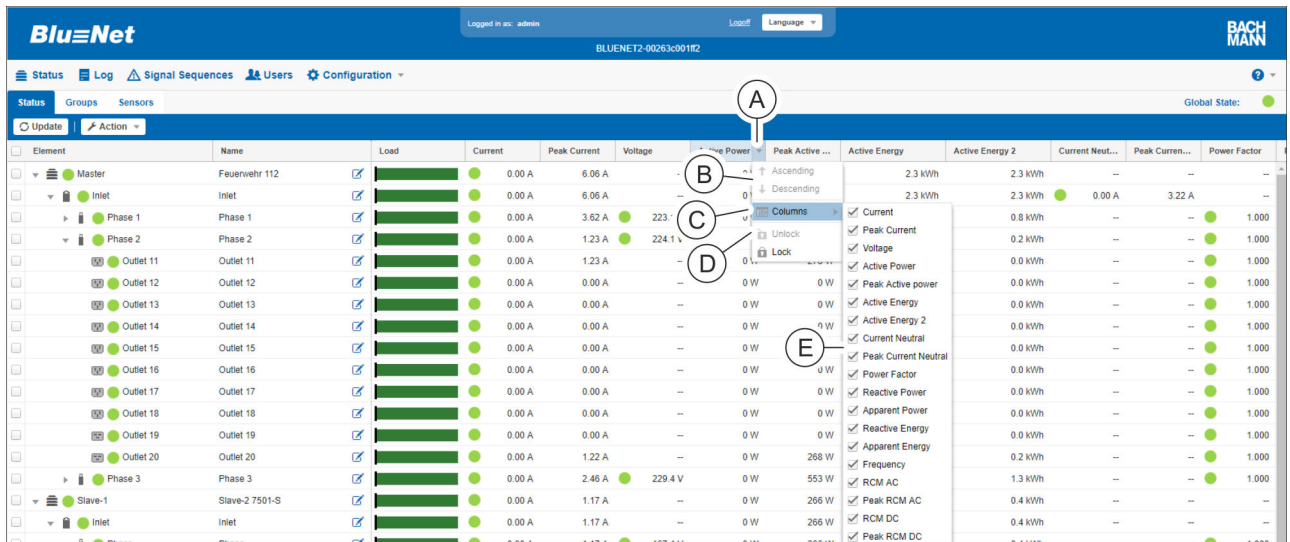

Fig. 94: Modifying the grouping of individual elements of measured data
1. Move the cursor in the title line of the measured data (Fig. 94/A).
2. Unlock the column lock by choosing the "Unlock" menu item (Fig. 94/D).
4. Change the parameter sorting by choosing the "Ascending" or "Descending" menu item (Fig. 94/B).
6. Using the "Columns" menu item (Fig. 94/C), click the checkbox to hide or display the desired parameters (Fig. 94/E).
7. Lock the column again by choosing the “Lock” menu item (Fig. 94/ⓐ).